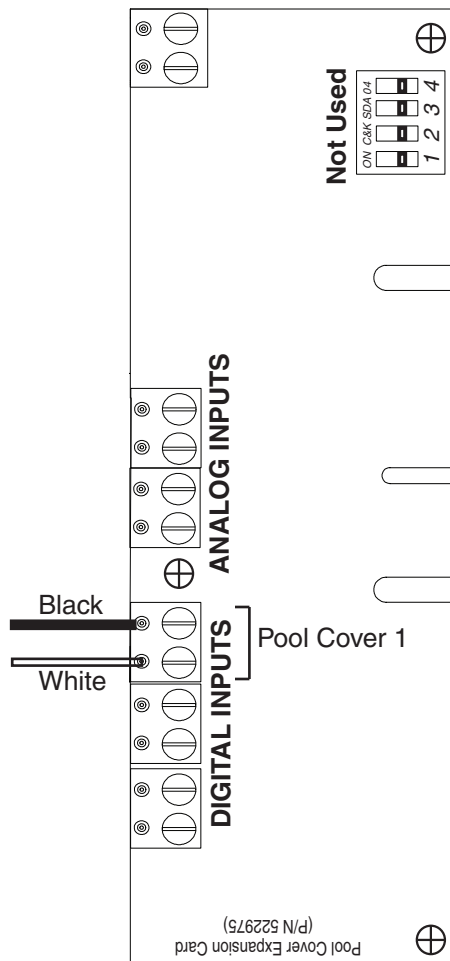

Figure 2. Pool Cover Expansion Card
1. Connect the pool cover controller 2-wire (Black and White) to the **Pool Cover 1**, 2-pin digital input screw terminals on the IntelliCenter Control System Pool Cover Expansion card. See Figure 2.